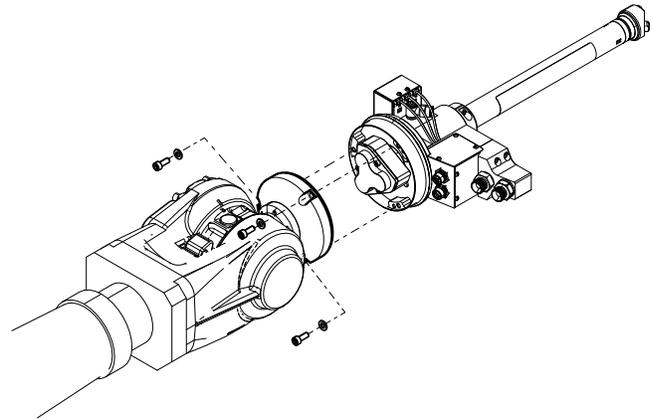

FIG. 11
5. Remove the screws that attach the swivel housing (619) to the anti-rotation bracket.
6. Unscrew the three screws that mount the Switch 3D Gun to the robot mounting flange. See FIG. 11.